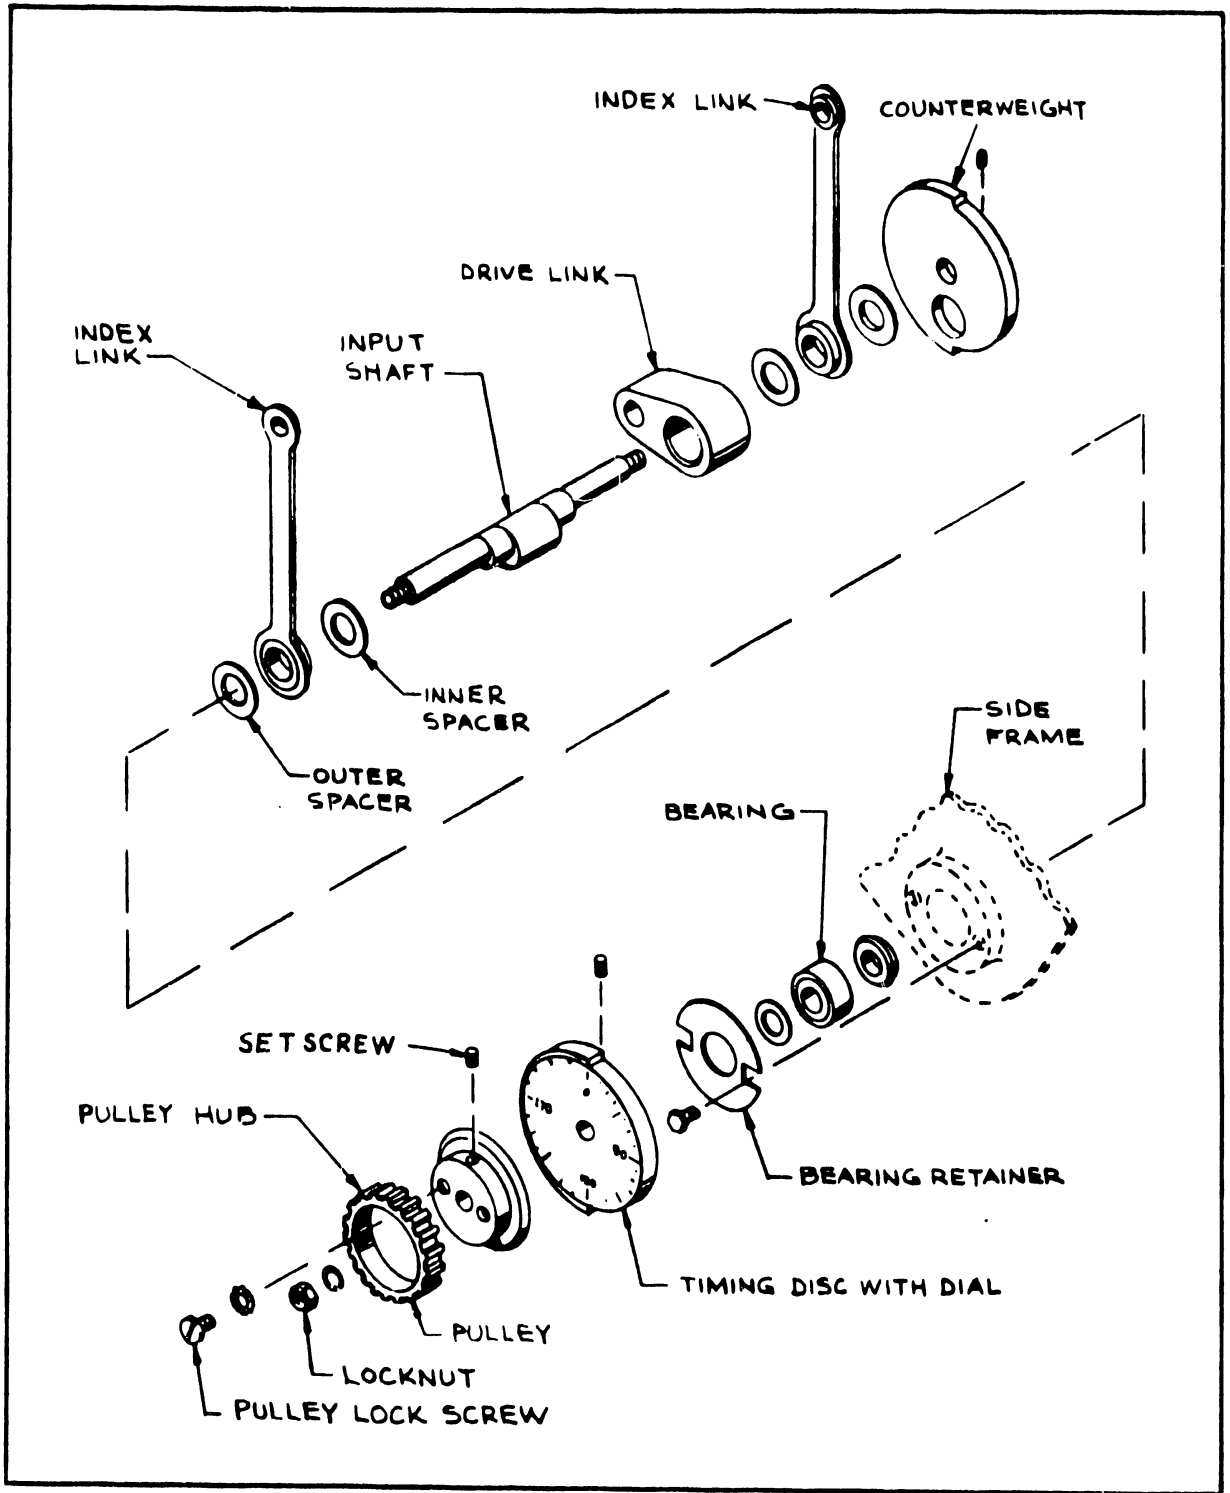
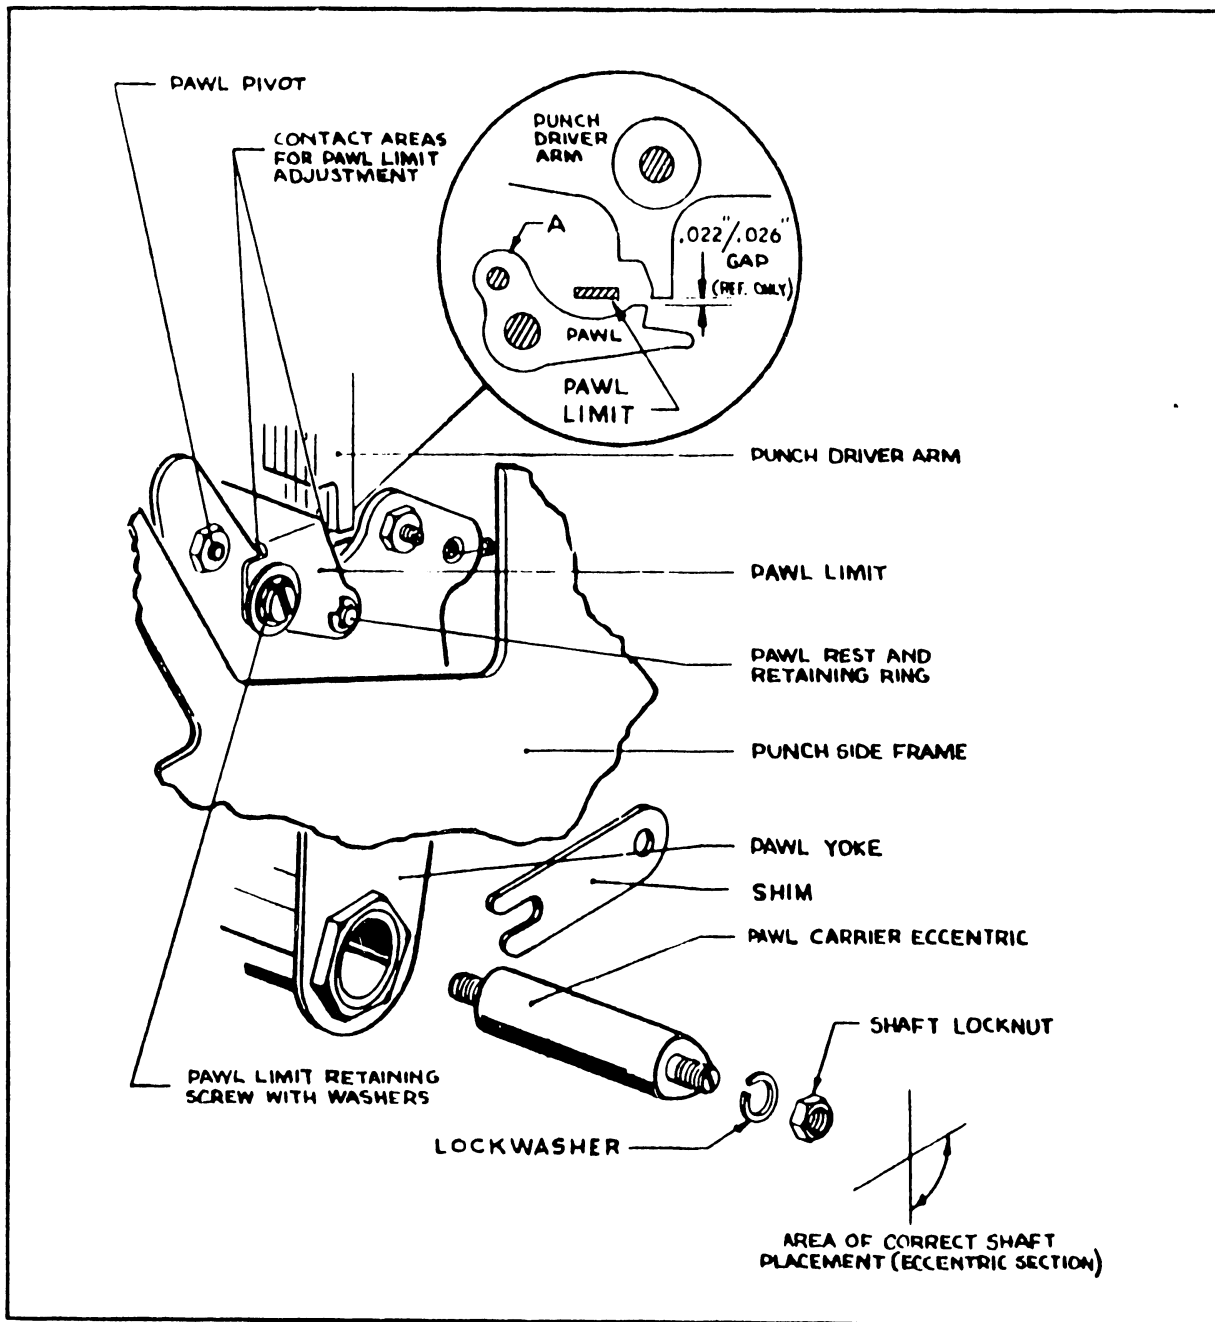
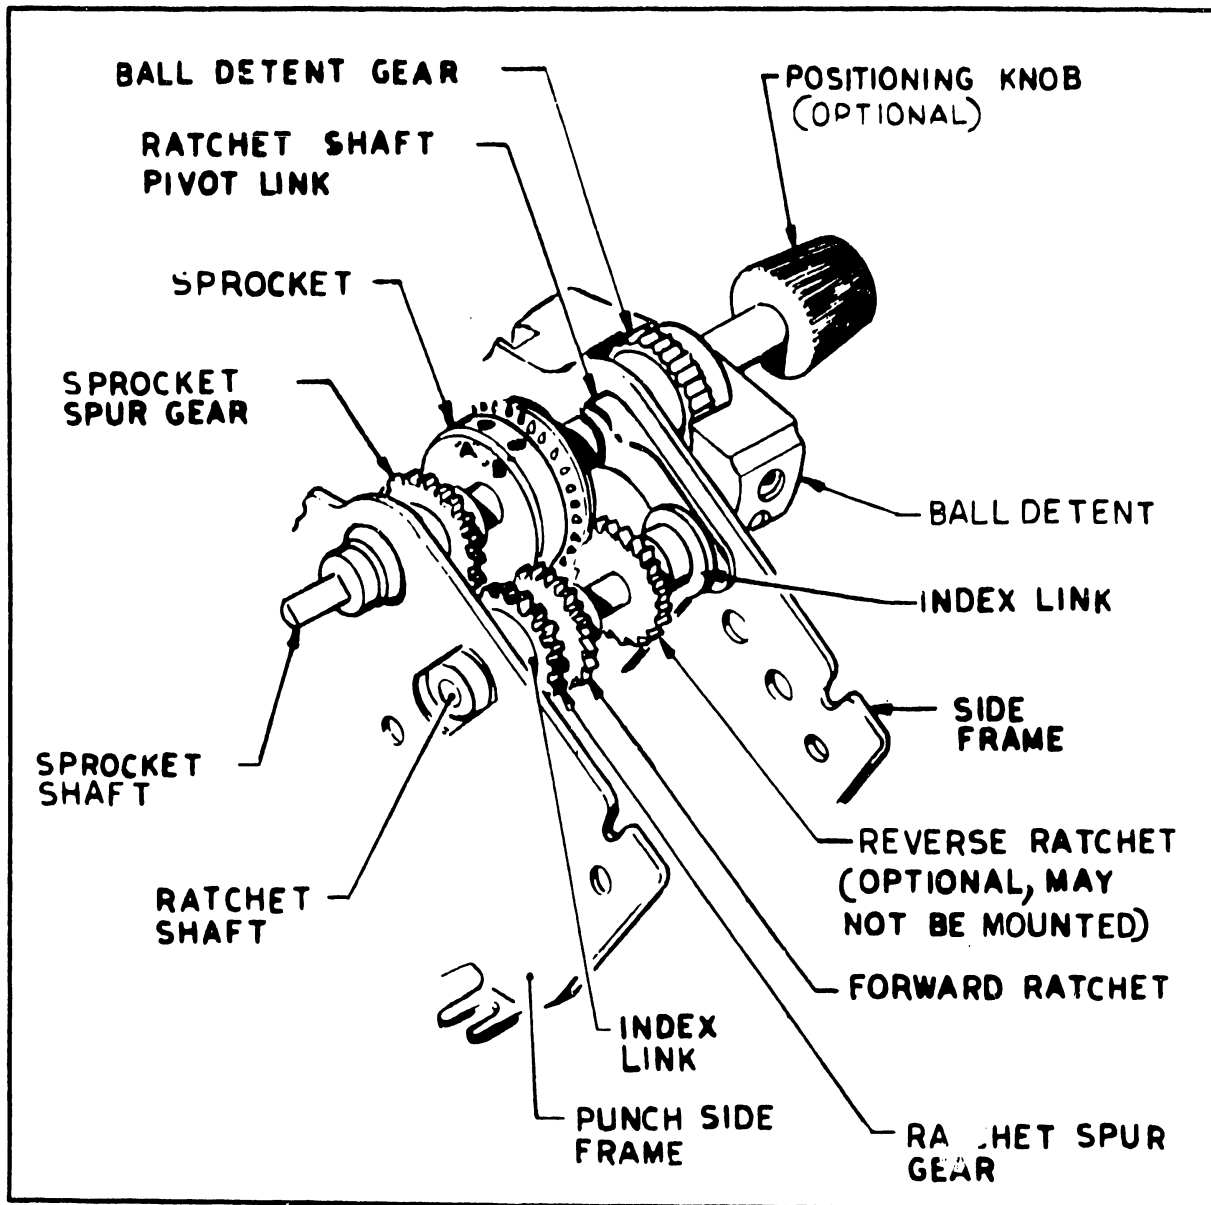

Figure 3.3 Input Shaft and Components
Figure 3.6 Pawl Adjustment and Pawl Limit
Figure 3.10 Feed Mechanism
4. Use the result of example 2 to set the dial so that position 276 degrees lines up with the center of the coil pole piece. Hold the shaft firmly in place and loosen the nut at the timing disc side, see Figure 3.3, and the timing disc setscrew. This setscrew is located in the hub of the disc.
The input shaft rotates continuously while the punch is in operation. The shaft and pulley which is attached to one end of the shaft is driven with a gear belt from a separately-mounted motor. The shaft is eccentric, therefore imparting a reciprocating motion to the drive link and the index link assemblies shown in Figure 3.3. These items continue to move back and forth, raising and lowering the feed mechanism, Figure 3.10, and causing the pawl yoke, Figure 3.6, to swing back and forth about its eccentric shaft.
1. Turn the input shaft to approximately 40 degrees. Manually press pawls at point A; see insert of Figure 3.6. This forces pawls to rise.
The adjustable eccentric shaft shown in Figure 3.6 is the pawl yoke pivot point. The punch drive adjustment must position this pivot point in such a way that a raised pawl moves the corresponding punch driver arm sufficiently far to lift the punch pin through the punch guide plate and into the upper die plate.
1. Remove the chad tube. Remove the ball detent mounting screws, see Figure 3.10, and remove the detent. Be careful that balls do not fall out. They are retained only by the adhesiveness of the grease within the housing.
one time. The sprocket, Figure 3.10, is mounted on the sprocket shaft, which is held in place on one side by the ball detent gear and, on the other side, by a collar. The shaft also supports the spur gear and the optional positioning knob.
1. Measure zoning. If an adjustment is required, loosen screws A and B, see Figure 3.10, and move the sprocket toward or away from the guide edge to obtain a correct spacing of 0.371 ± 0.002 inch to the outside of the sprocket teeth.
The ball detent arrests the rotation of the sprocket shaft. It also holds the shaft fixed during upward movement of the index links. The detent is shown in Figure 3.10. It consists of an injection-molded plastic part into which six stainless steel balls have been inserted, with individual springs and setscrews. Setscrews are adjusted to provide enough spring tension so that contact between balls and detent gear keeps the shaft normally in a fixed position, except when operation calls for rotation of the sprocket shaft.